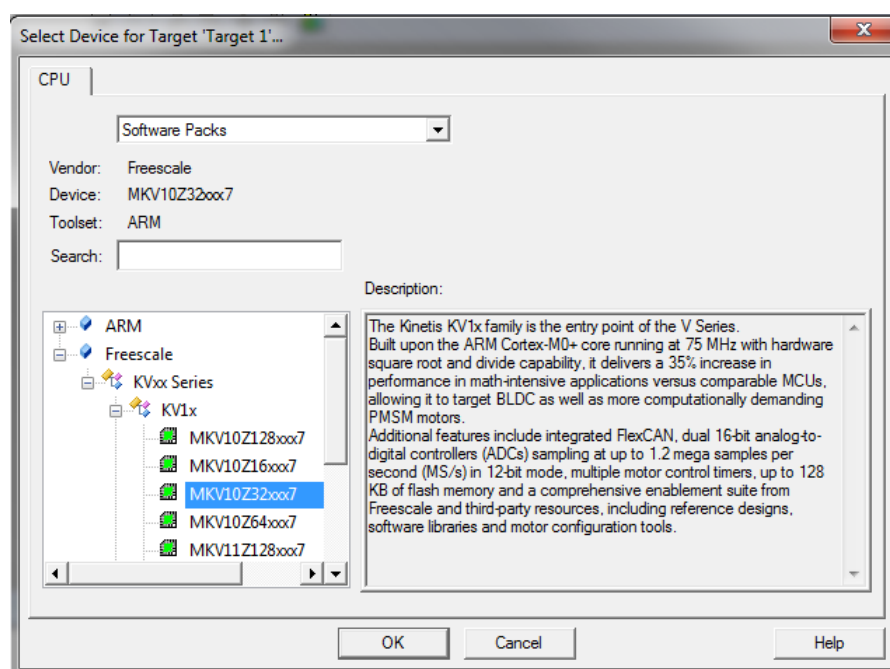

Figure 1-27. Select Device dialog
7. Click the MKV10Z32xxx7 node, and then click OK. See Figure 1-27.